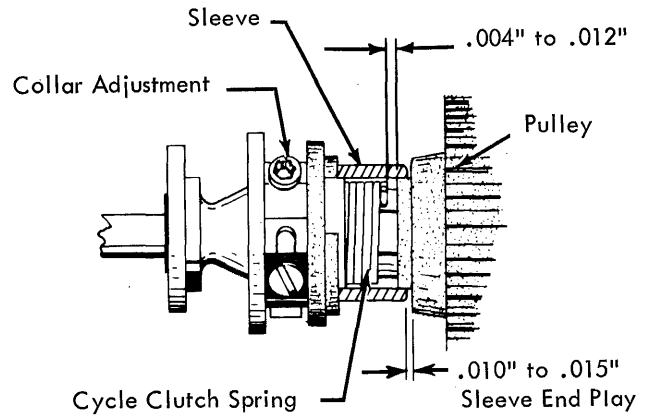

FIGURE 89. Lateral Position of the Cycle Clutch Spring and Collar
- Lateral position of the spring - Loosen the collar and position the spring left or right on its hubs so that the right hand end of the spring will clear the face of the cycle clutch pulley by .004" to .012" (Fig. 89).